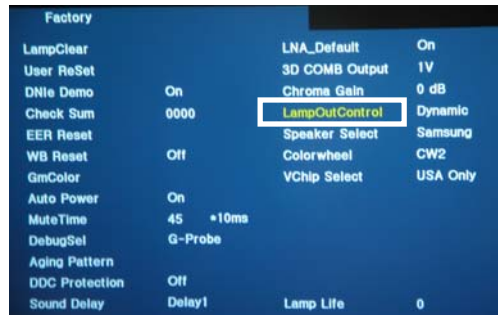

Figure 1
3. Select the LAMP OUT CONTROL item. See figure 1. Adjust per table 1 above for the model being serviced.